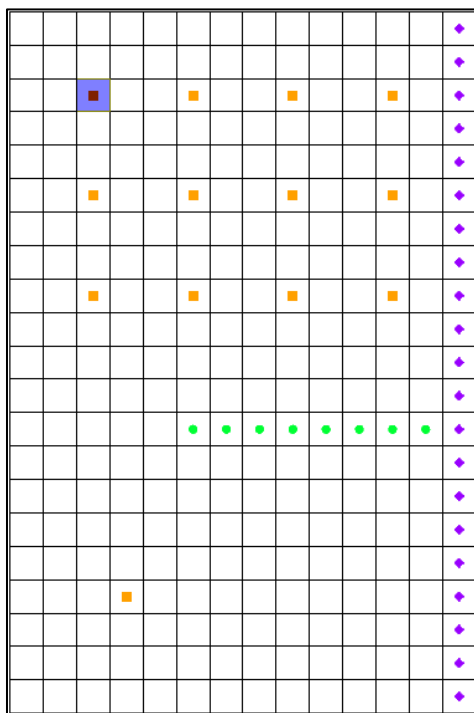

Figure 7 Selected MNW2 well cell
2. Using the **Select Cells**  tool, select the cell in row 3, column 3. This cell contains a well (highlighted in Figure 7).